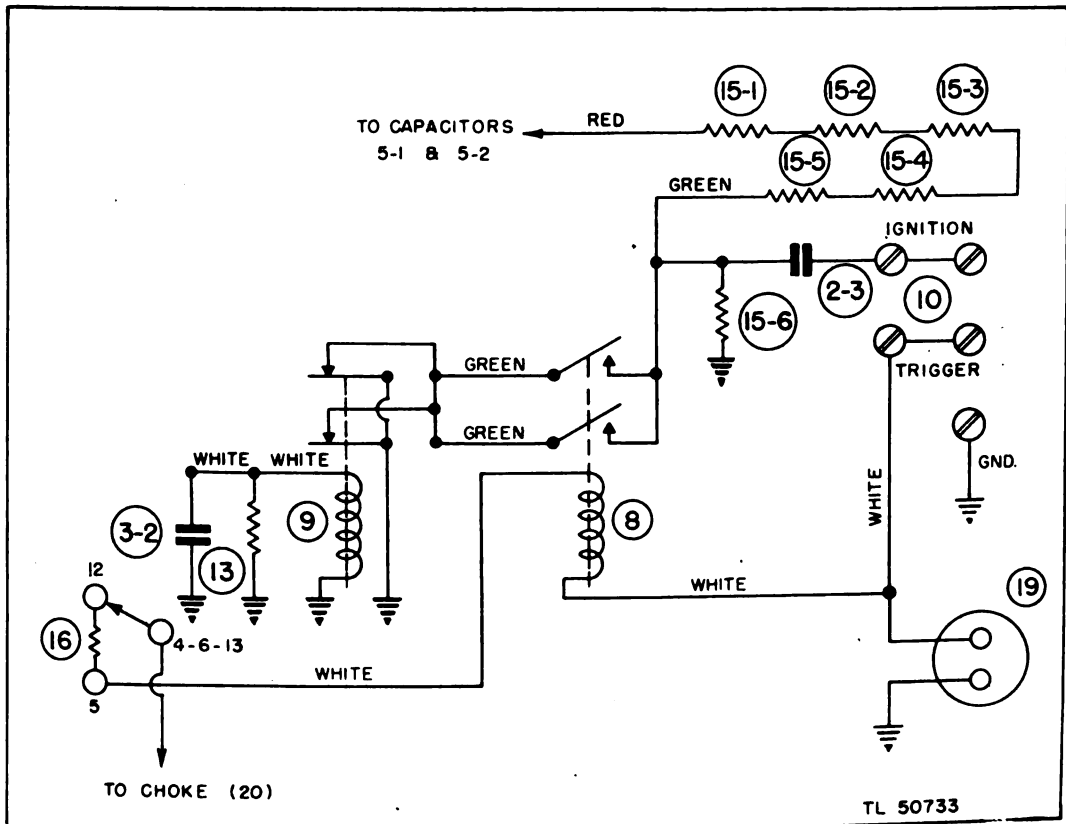

Figure 15. Timing and trigger circuit, Voltage Converter PP-49/VVX-1.
c. *Timing and Trigger Circuit (fig. 15).* (1) Six 200,000-ohm, 1-watt bleeder resistors (15-1), (15-2), (15-3), (15-4), (15-5), and (15-6), pass current and charge capacitor (2-3) to approximately 300 volts direct current. The capacitor (2-3) is in series with the primary of the ignition coil in the identification lamp. When capacitor